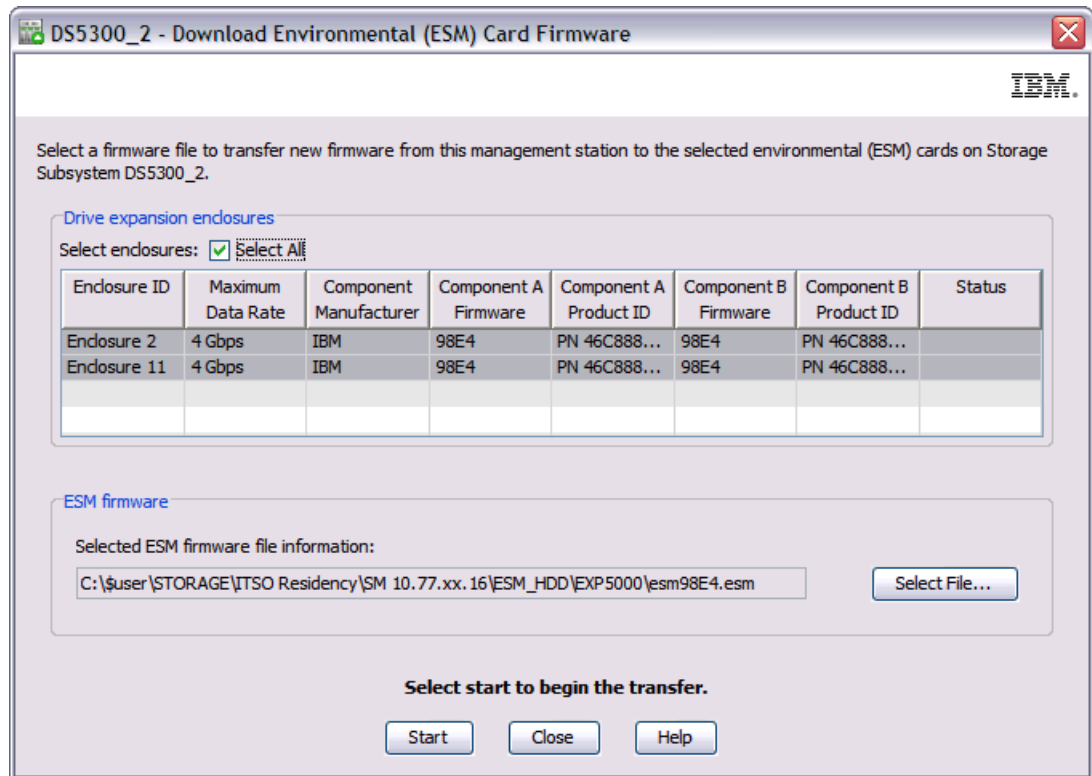

Figure 5-17 Download ESM firmware window
2. The Download Environmental (ESM) Card Firmware main window opens, as shown in Figure 5-17.